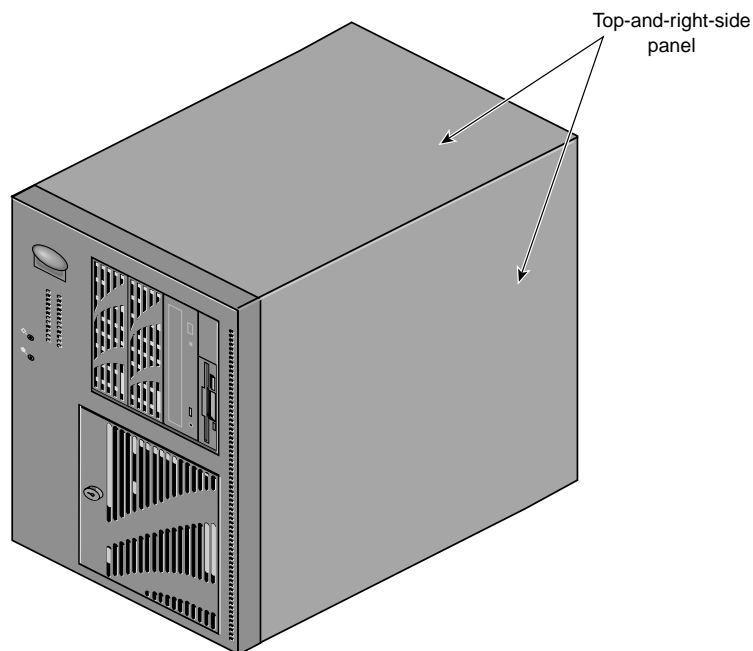

Figure 1 Top-and-Right-Side Panel
1. Remove the three screws that secure the top-and-right-side panel (see Figure 1 on page 2) to the back of the system.